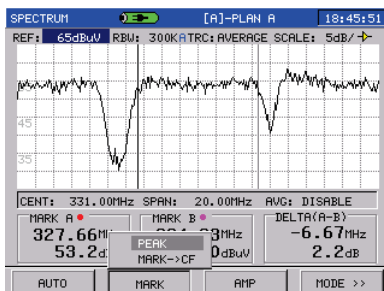

Figure 3-3-2
**MARK(F2):** Press **MARK** soft key, you can select **PEAK** or **MARK->CF**, as Figure 3-3-2.